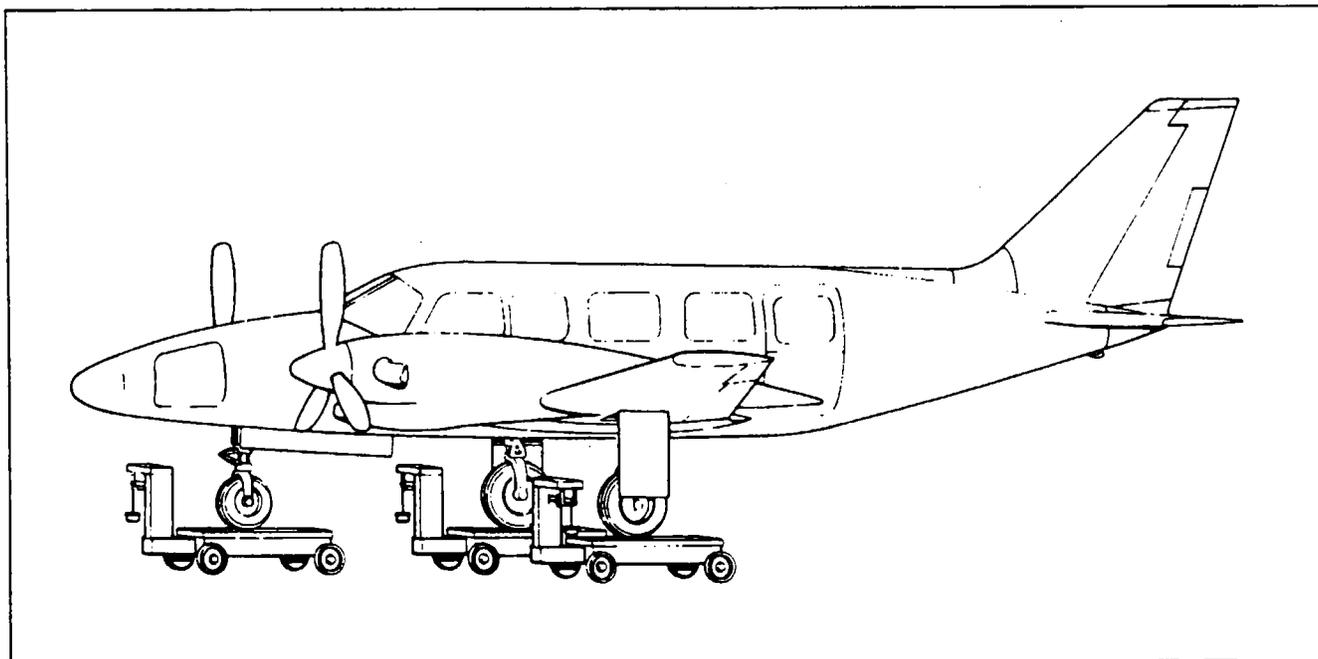

Figure 8-2. Weighing
**WEIGHING. (Refer to Figure 8-2.)**